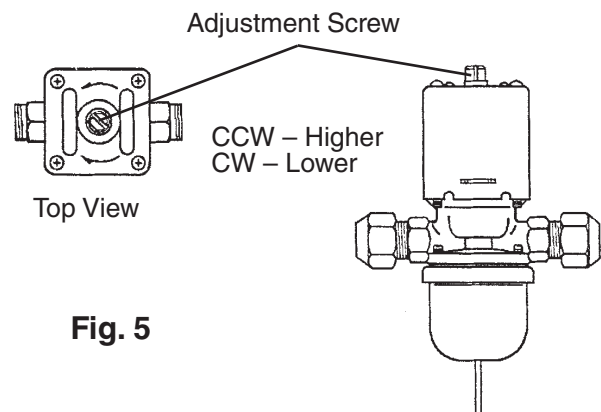

Fig. 5
- 2) Five minutes after a freeze cycle starts, confirm that the thermometer reads 104°F to 115°F (40°C to 46°C). If it does not, use a flat blade screwdriver to rotate the adjustment screw on the water-regulating valve until the temperature is in the proper range (rotate counterclockwise to raise the temperature or clockwise to lower the temperature). See Fig. 5. Next, check that the reference pressure is in the range indicated in the Head Pressure table in the Performance Data section. If it is not in the proper range, verify the refrigerant charge.